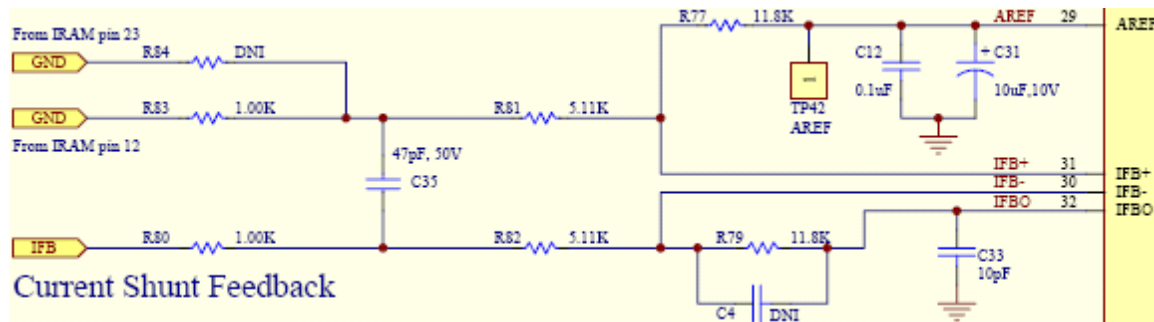

Figure 56—Current Feedback Circuit
**Current Feedback Op-Amp Capacitors**—The Reference Designs place capacitors at the output of the current feedback op-amp, as shown in Figure 56. These capacitors stabilize the op-amp output, preventing oscillation. The op-amp oscillation varies between production lots and is also influenced by the layout. The value recommended below will solve this problem provided that the designer follows the layout guidelines of Section 4.2.1.
*We recommend that a 33pF capacitor be placed between the op-amp output and the analog ground (C33 of Figure 56).* The capacitor choice will influence the minimum pulse width and the sampling delay required because it slows down the response of the op-amp output. A larger minimum pulse width can result in greater acoustic noise, particularly at low speeds. See Section 4.3.2.2 for more discussion on choosing the minimum pulse width and the sampling delay.
**Current Feedback Amplifier Gain**—This MCEWizard input is the gain of the current feedback amplifier. The user can configure this gain as desired by changing the resistors of the input circuit to IFB+, IFB- and IFBO. For example, in Figure 56,